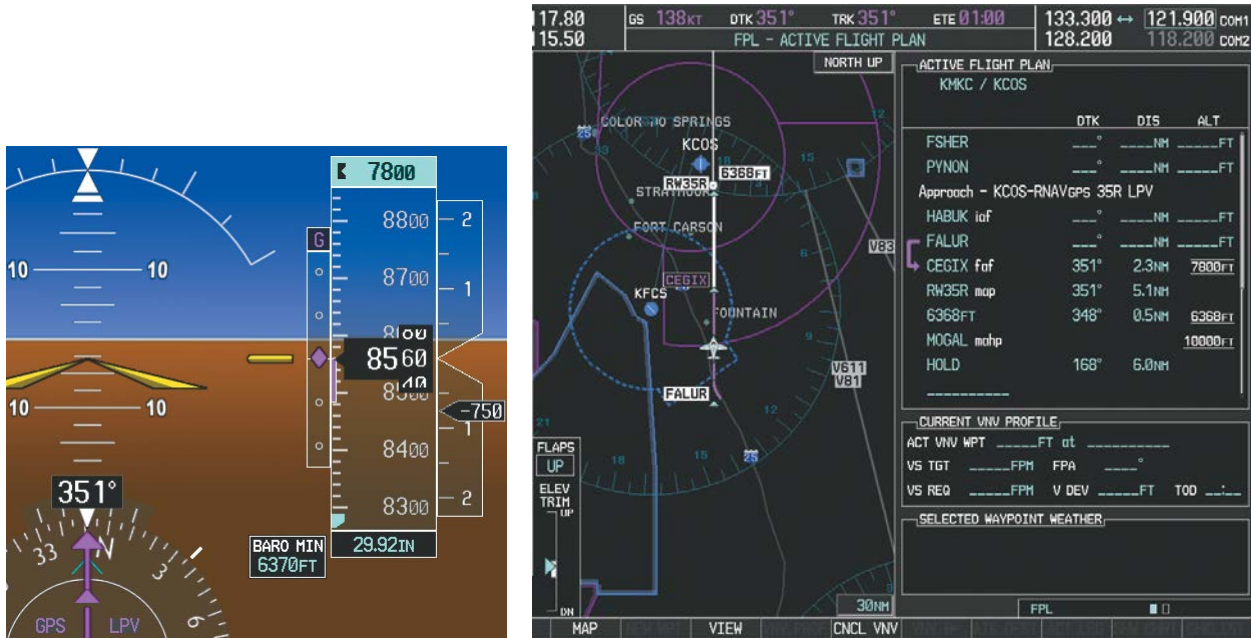

Figure 5-148 Descending to the FAF
- 23) After crossing FALUR the next waypoint is the FAF. The flight phase changes to LPV on the HSI indicating the current phase of flight is in Approach Mode and the approach type is LPV. CDI scaling changes accordingly and is used much like a localizer when flying an ILS approach. The RVSI is no longer displayed and the VDI changes to the Glidepath Indicator (as shown in Figure 5-148) when the final approach course becomes active.
The descent continues through the FAF (CEGIX) using the Glidepath Indicator, as one would use a glideslope indicator, to obtain an altitude "AT" 7,800 feet at the FAF. Note the altitude restriction lines over and under (At) the altitude in the 'ALT' field in Figure 5-148.